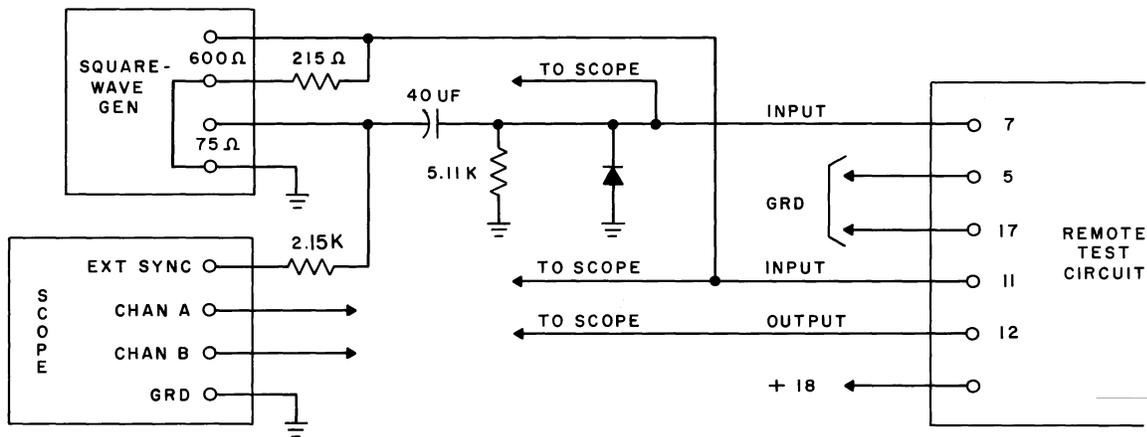

Fig. 43 - (Remote Circuit Card Test)
- (5) Connect the card as in the suggested test circuit shown in Fig. 43.